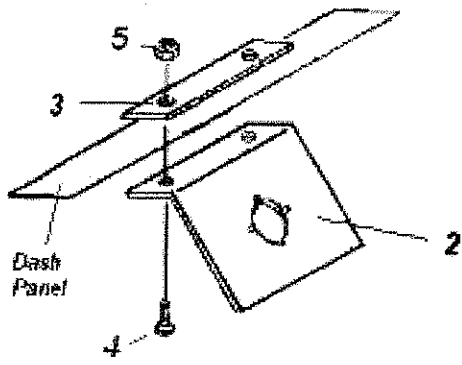

Figure 1
- B. If the desired location is the dashboard, there are two methods of installation. The first is to mount the control switch directly in a 3/4" diameter hole in the dash. This is practical on dashboards that are made of steel with no padding. On plastic dashes, install Bracket (2) by drilling 2 holes in the dash and secure using Round Head Machine Screws (4) and Locknuts (5). Install Back-up Plate (3) behind dash for added stiffness. See Fig. 1.